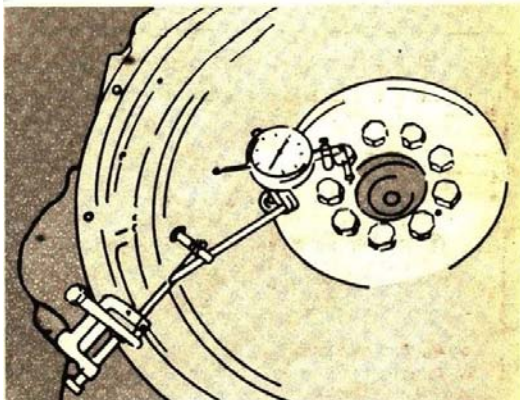

Fig. 14-49, Check the flywheel bearing bore with the indicator
- b. Rotate the flywheel. The total indicator reading must not exceed 0.005 inch (0.13mm) in one complete revolution. Fig. 14-49